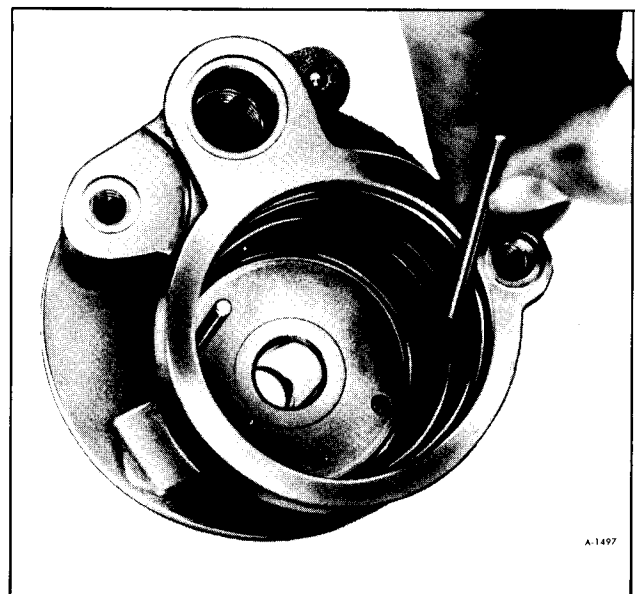

Figure 16—Removing Dowel Pins From Housing
12. Remove rotor and thrust plate from shaft and both dowel pins from housing. (figure 16).
3. Clamp end hub of housing in vise in same position as before and insert both dowel pins. (figure 16).